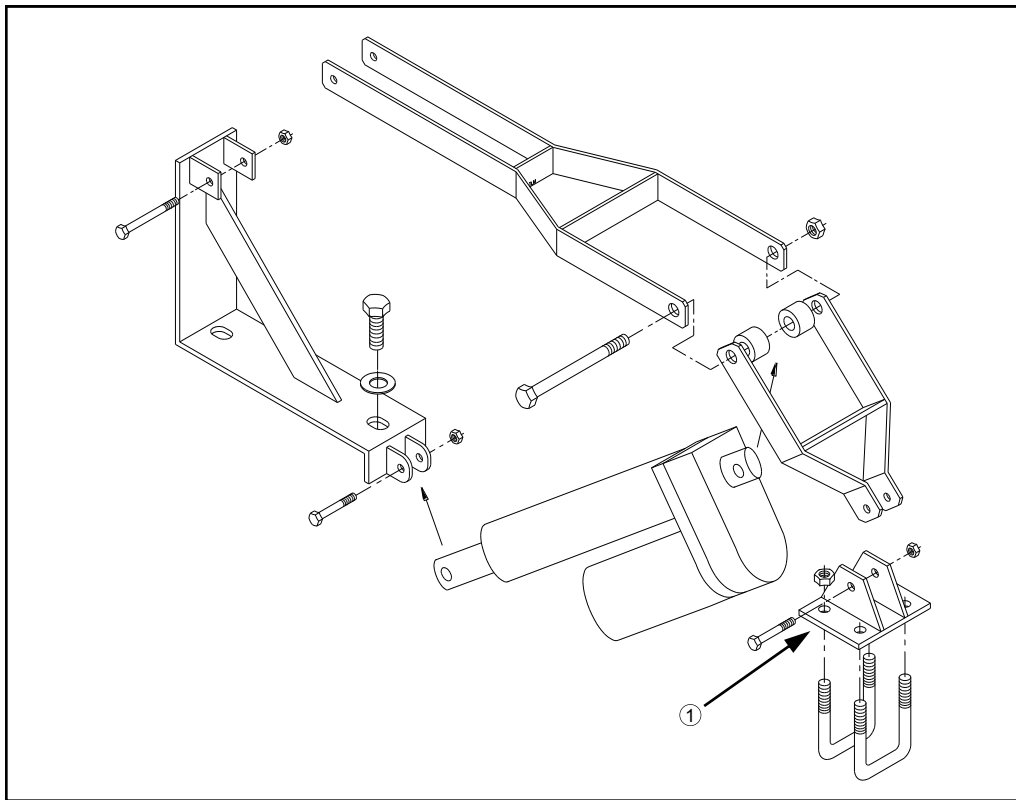
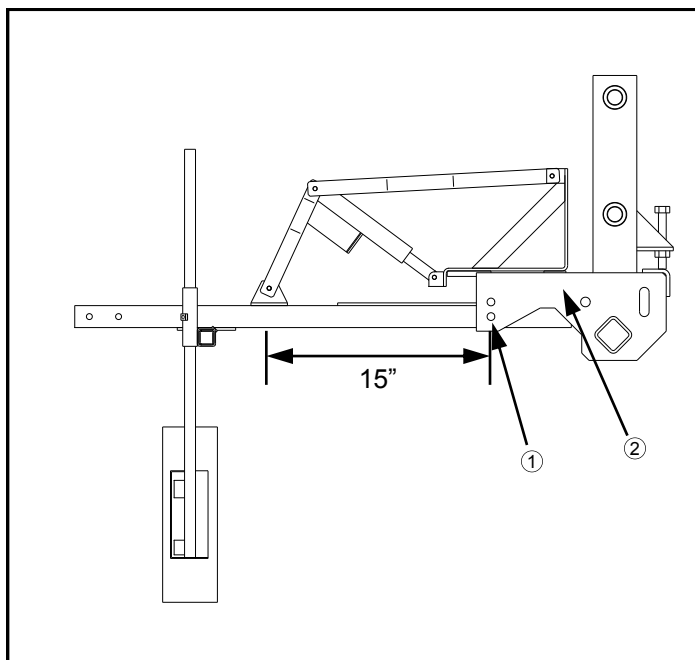

FIG 4.32
FIG 4.33
1. Attach the depth command actuator assembly (fig. 4.32) to the tool bar (fig. 4.33, item 2).
2. Attach the adjustable slide mount (fig. 4.32, item 1) to the sensor arm approximately 15 inches away from the sensor arm pivot (fig. 4.33, item 1). This should give you equal travel distance up and down of the actuator.
Over tightening of the sensor arm pivot mounting bolt (fig. 4.33, item 1) may cause the actuator to stall.